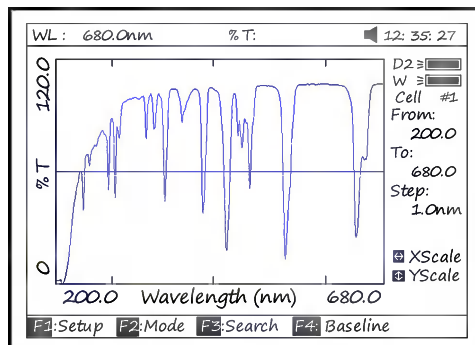

Fig 14
1. The key **【ENTER】** be pressed, the file selected will be loaded and displays on the screen. Fig 14.
◇ Press the key **【SAVE】** in Fig14 to save curve.